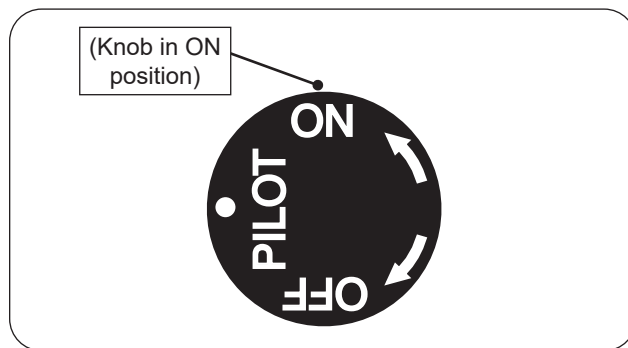

Fig. 30-1 Manual lighting
1. Ensure the pilot is burning. Turn the control knob counterclockwise ↺ to **ON** to ignite the burner (see Fig. 30-1).